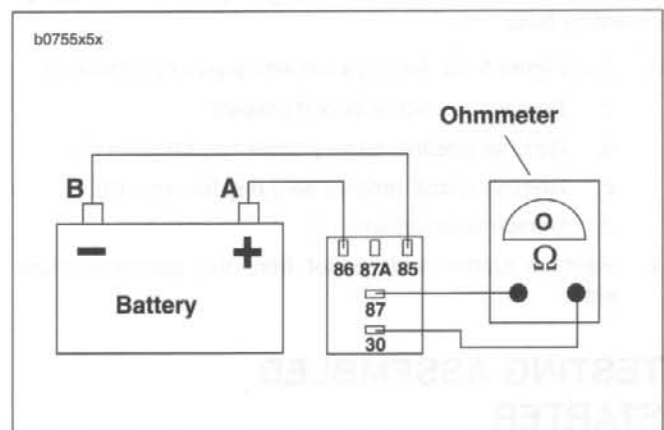

Figure 5-7. Starter Relay Test
3. See Figure 5-7. Obtain a 12 volt battery and a continuity tester or ohmmeter.